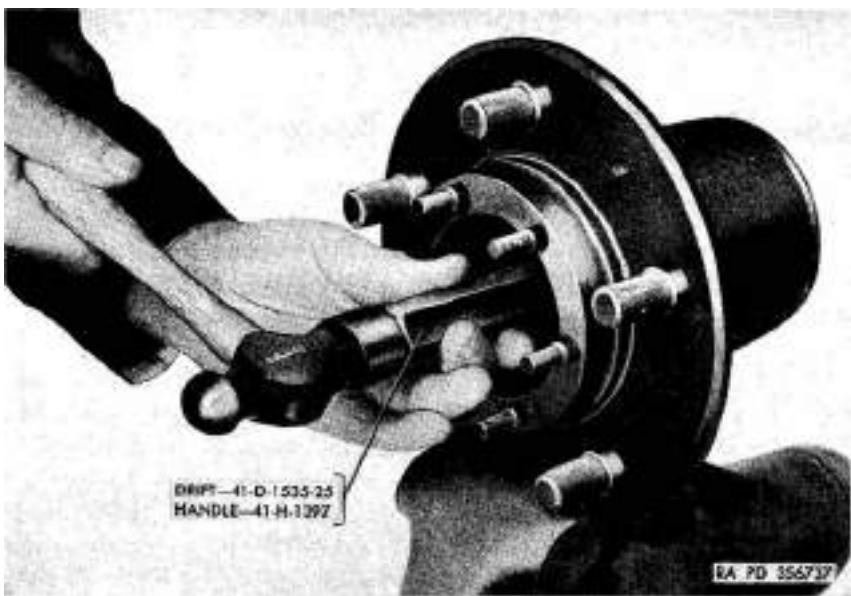
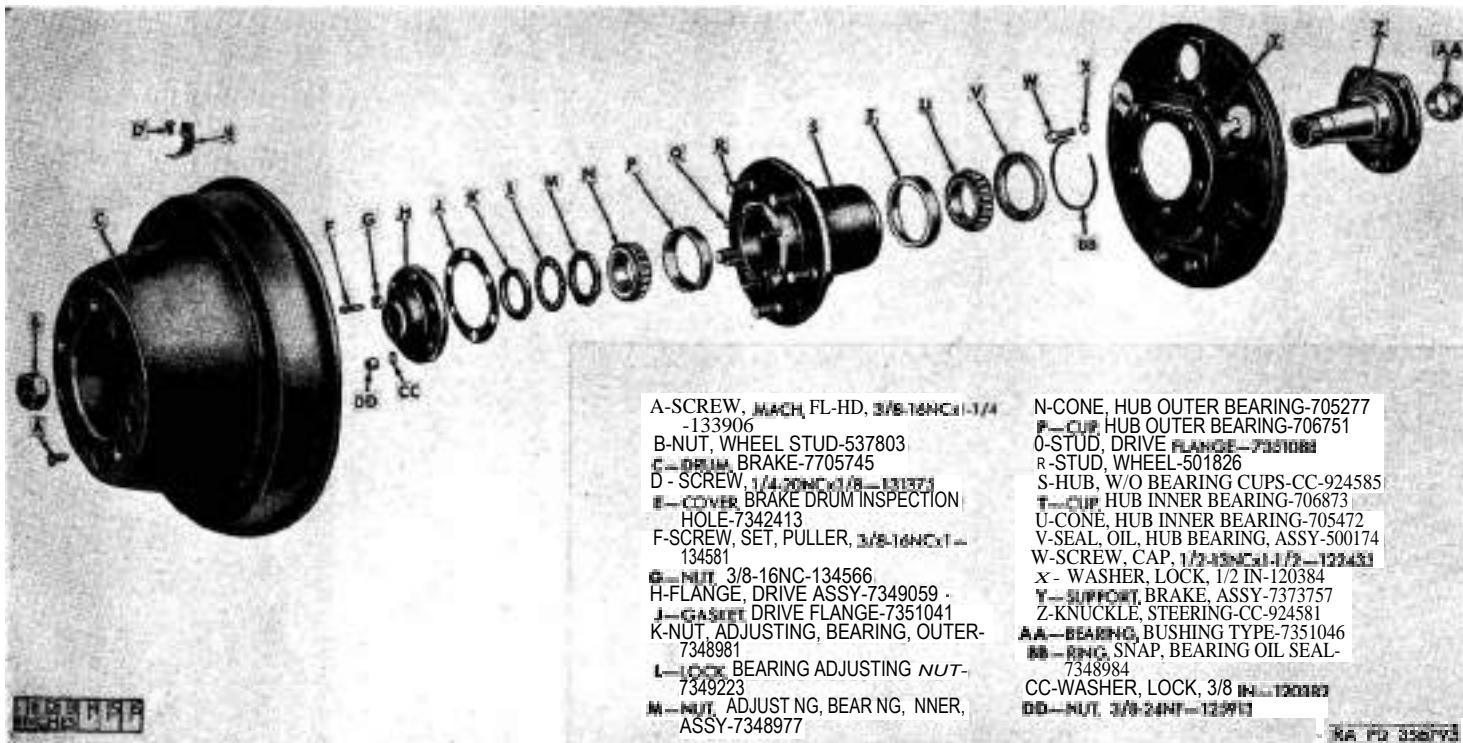

Figure 53. Removing hub inner bearing cone and hub bearing oil seal assembly.
Figure 54. Hub with brake drum assembly—exploded view.
c. *Disassemble Hub Assemblies* (fig. 54). Remove bearing oil seal snap rings (BB). Insert drift 41-D-1535-25 and handle 41-H-1397 (fig. 53) into hub from outer end and drive hub inner bearing cone (U) and hub bearing oil seal assembly (V) from hub in one operation.
d. *Remove Hub Inner and Outer Bearing Cups* (fig. 54). If inspection (par. 75b) of hub inner and outer bearing cups (P and T) reveals that replacement is necessary, remove them with a brass drift and hammer. Openings are provided in the hub forgings for the drift.
a. *Inspect Hubs* (fig. 54). Inspect hubs without bearing cups (S) for damage and loose bearing cups. Inspect drive flange studs (Q) and wheel studs (R) for damaged threads. If hub is damaged or there is evidence of a loose bearing cup, replace hub. If the wheel studs or drive flange stud threads are worn or damaged, replace studs (par. 76b).
b. *Inspect Hub Rearing Cups and Hub Bearing Cones* (fig. 54). Inspect hub outer and inner bearing cups (P and T) and hub outer and inner bearing cones (N and U) for cracks, chipped spots, pitting, or wear. If any of these conditions exist, replace bearing cups (pars. 74d and 76a) and bearing cones (pars. 74c and 76c).
c. *Inspect Brake Drums* (fig. 54). Refer to chapter 11 for inspection information on brake drums (C).
b. *Install Wheel Stud*. If replacement of a wheel stud (R, fig. 54) is necessary (par. 75a), install stud with an arbor press making certain flat portion of head corresponds with the shoulder on hub.
c. Install Hub Inner Bearing Cones, Hub Bearing Oil Seal Assemblies, and Bearing Oil Seal Snap Rings (fig. 54).
Pack hub inner bearing cones (U, fig. 54) with specified lubricant (refer to TM 9-840). Coat interior of hubs with a small quantity of specified lubricant and place bearing cones in hub. Position the newly prepared hub bearing oil seals (V, fig. 54) so that lip of seals face roller bearings. Drive oil seals squarely into hub with replacer 41-R-2392-405 (fig. 56) just far enough to permit installation of bearing oil seal snap ring (BB, fig. 54).
i. Remove Bushing-Type Bearings From Steering Knuckles (Z, fig. 54). If inspection (par. 78c) reveals that replacement is necessary, remove bushing-type bearings (AA, fig. 54) with a puller (fig. 60).